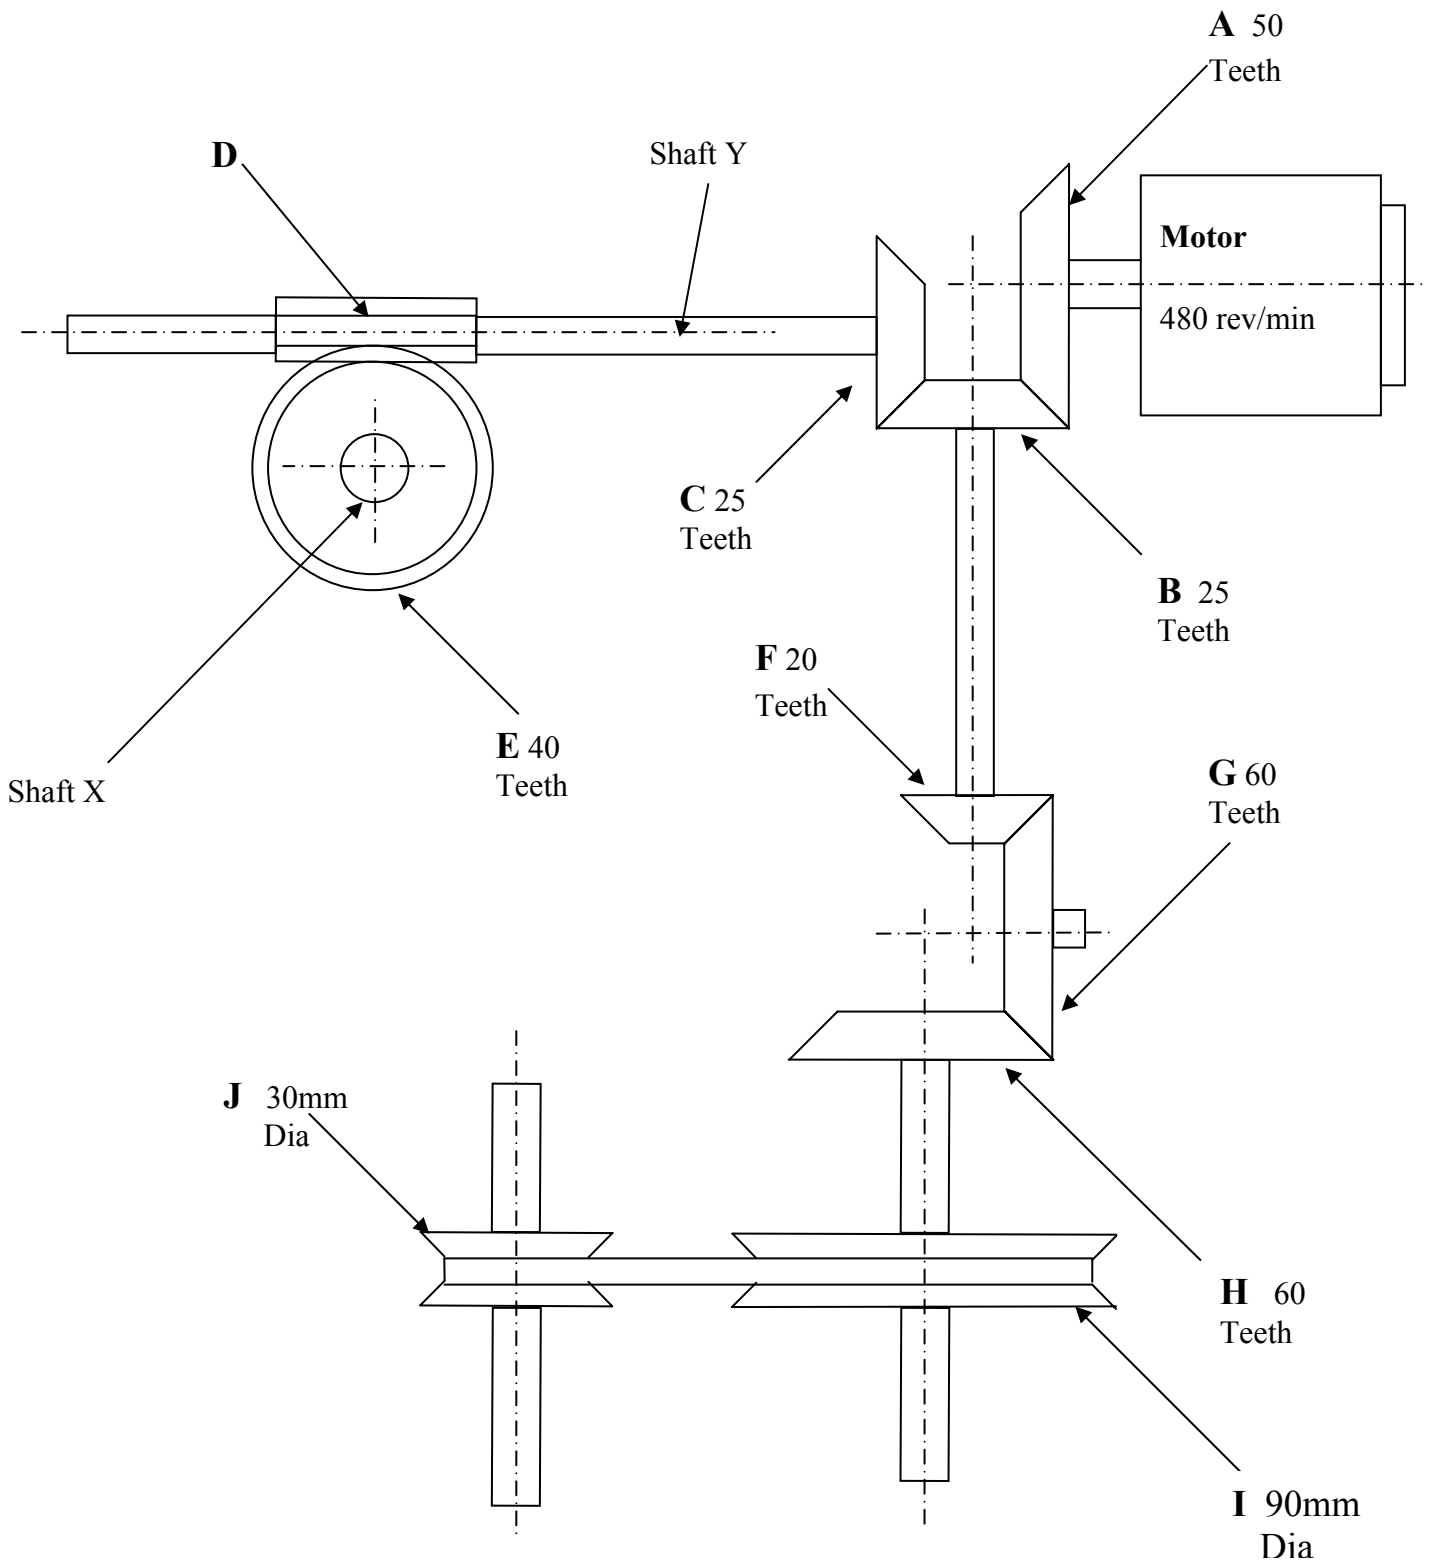

Fig 11 (a)
- 11 Fig 11 (a)** shows various mechanical components assembled for testing.
- (iii)** An alternative component assembly to the one outlined in **Fig 11 (a)** has an efficiency of 87.5% and a mechanical advantage of 7. Showing all calculations determine the velocity ratio of the new assembly. [2]